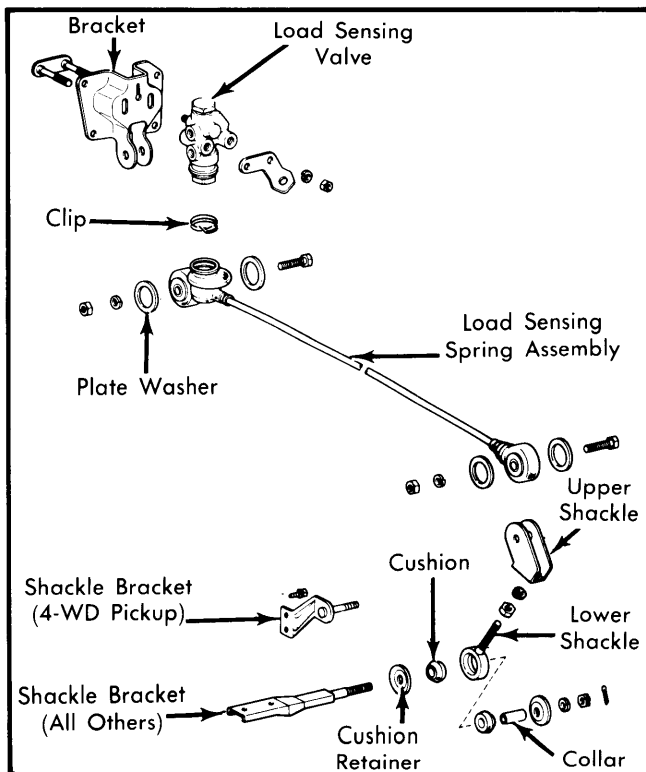

Fig. 15 Exploded View of Load Sensing Proportioning Valve
**Removal** — Raise and support vehicle. Remove load sensing spring assembly. Disconnect and plug hydraulic lines from load sensing valve. Remove brake tube bracket from valve body, then remove valve body and bracket as an assembly. Separate valve body from bracket. See Fig. 15.